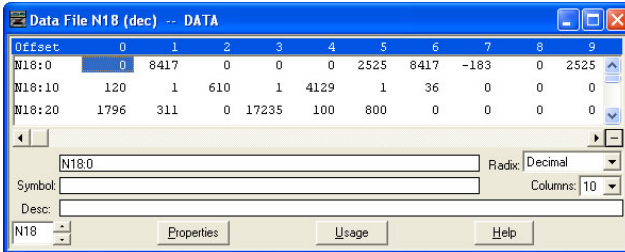

Figure 119: Monitoring the Data Being Read from the Inverter
- a) To view the registers being read from the interface card, double-click the data file N18 under "Data Files" in the controller organizer view. 25 register values starting at register #2050 are being continuously read from the interface card and placed in the 25 sequential offsets of N18 starting at N18:1. Refer to Figure 119. We can see that N18:9 (register 2058 / output frequency) has a value of 610 (25.25Hz), N18:12 (register 2061 / output voltage) has a value of 610 (61.0V), etc.